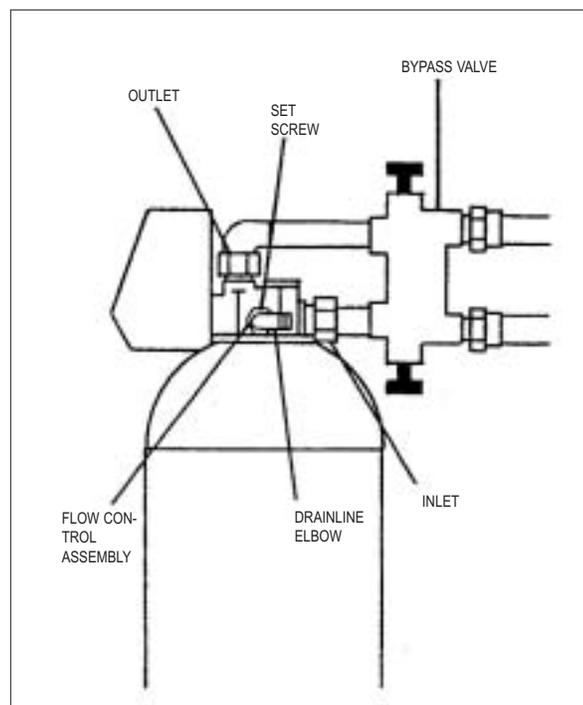

FIGURE 4
3. Cut main supply line as required to fit plumbing to control valve and attach the single lever bypass valve (Fig. 4).